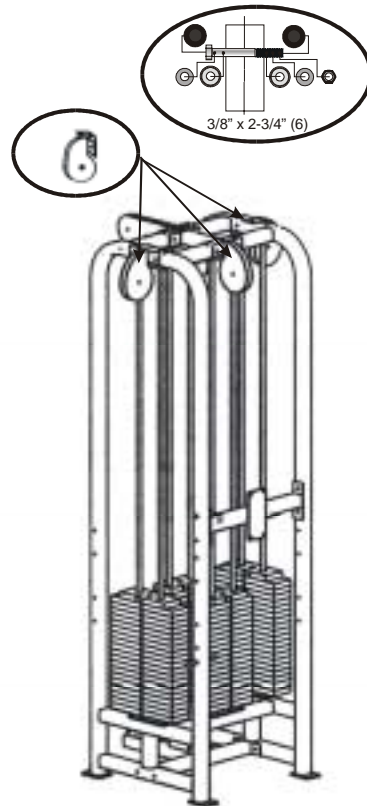
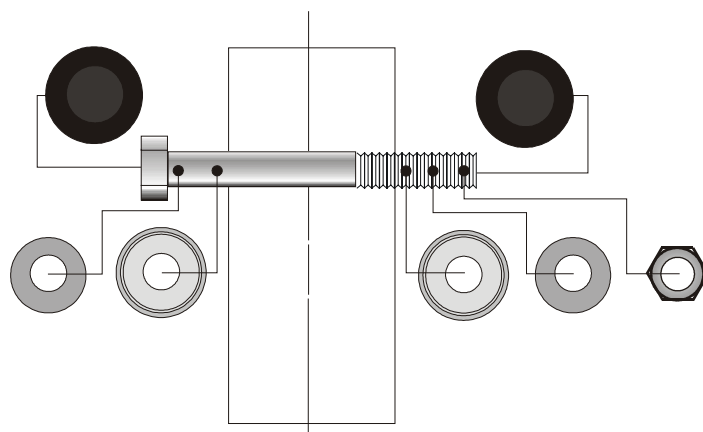

Figure 4. Bolt on the teardrop pulleys.
Figure 5. Configuration for 2-3/4" and 3" bolts.
2. **Bolt on the teardrop pulleys** above the benches (see Figure 4) on the 4 stack cell using two 3/8" x 2-3/4" hex head bolts. Include the 3/8" flat washer, end cap washers, end caps and 3/8" Nyloc nut. Use the bolt configuration shown in Figure 5. You may wish to use a pinch bar to align the bolt holes.
Hardware Figure 5. Top assemblies.